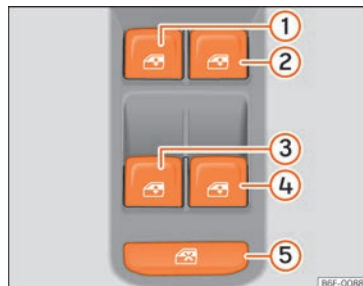

Fig. 87 Detail of the driver's door: window controls.
The safety control »» Fig. 87 ⑤ on the driver door can be used to disable the electric window buttons on the rear doors.